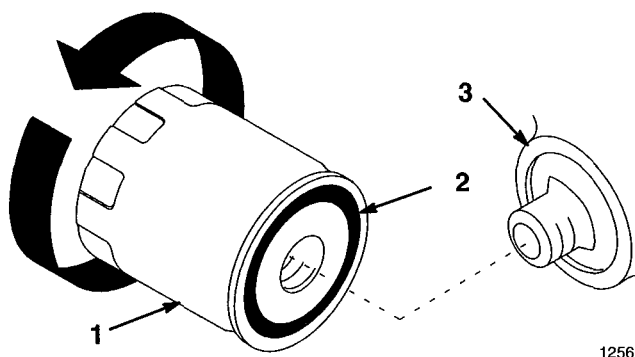

Figure 19
2. Remove the old filter and wipe the filter adapter (Fig. 19) gasket surface.
3. Apply a thin coat of new oil to the rubber gasket on the replacement filter (Fig. 19).
4. Install the replacement oil filter to the filter adapter. Turn the oil filter clockwise until the rubber gasket contacts the filter adapter, then tighten the filter an additional 1/2 turn (Fig. 19).